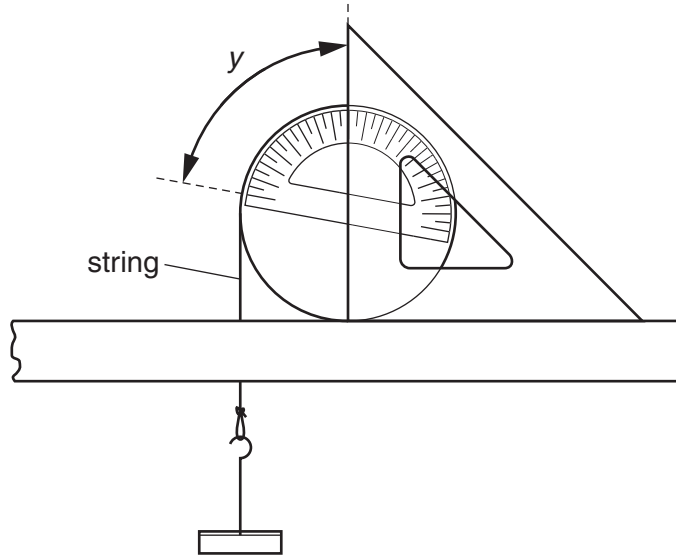

Fig. 1.3
- (iii) Using the set square, measure and record the angle y , as shown in Fig. 1.3.